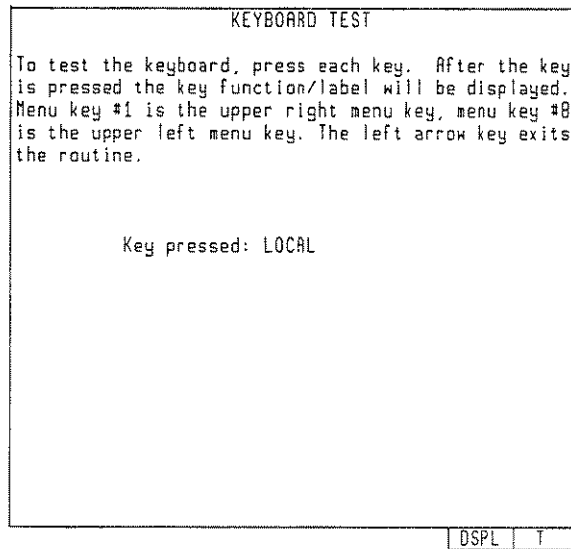

Figure 5-11. Key Test
4. Press any key on the display's front panel and it will be echoed on the screen if it is working properly. See Figure 5-11.